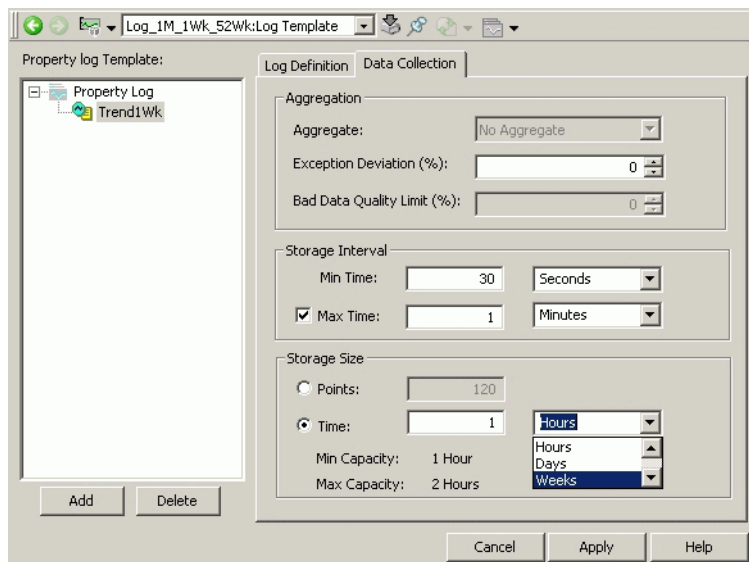

Figure 126. Data Collection Configuration for the Trend Log
2. Click the **Data Collection** tab and configure how this log will collect from the OPC data source. For this tutorial, set the Storage Interval Max Time to **1 Minutes**, and the Storage Size Time to **1 Weeks**, Figure 126. For further information regarding trend log data collection attributes, refer to Collection Attributes for Trend Logs on page 227.